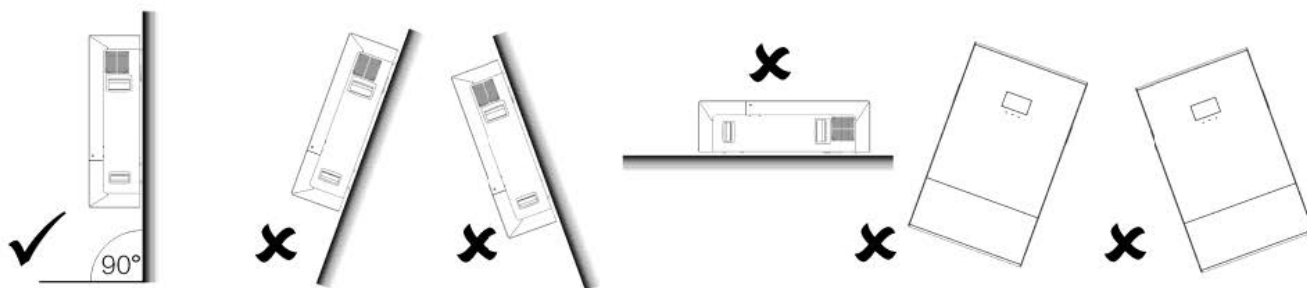

Figure 5. Permitted mounting orientation.
- The inverter must only be mounted in an upright position (as shown in Figure 5).